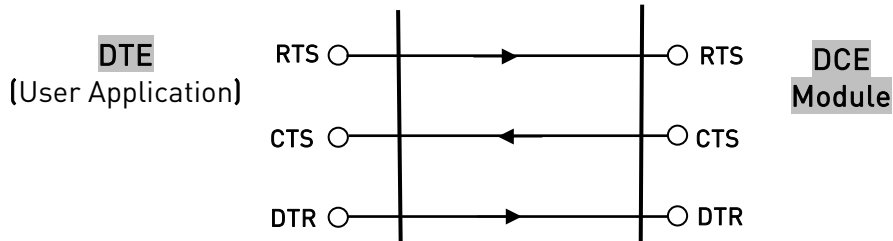

fig. 4: Control Serial lines
- RTS line ON (low, 0V on UART, default state) causes the module (DCE, see fig. 4 ) to assume the data channel transmit mode; the User Application is not going to send any AT commands. The module, accordingly with its transmitting needs, can save energy by shutting down its serial port;